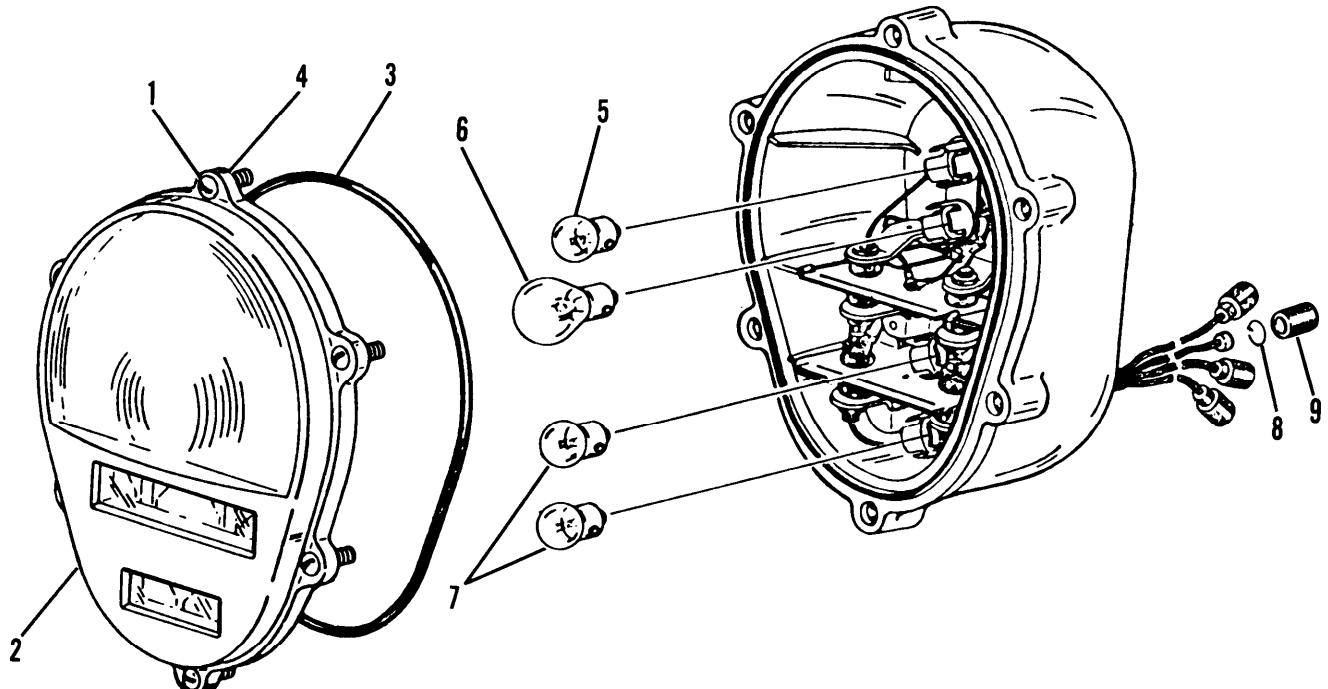

Figure 4-9. Composite Light Assembly
- (1) Unscrew six captive screws (1, fig. 4-9) on door (2).
- (2) Remove door (2) and gasket (3). Captive screws (1) are fitted with retaining rings (4) and will remain in door. Discard gasket (3) from door (2).
- (3) Remove lamps (5, 6, and 7) from sockets.
- (4) Remove C-washers (8) and shells (9) from end of cables.
- (1) Install shells (9, fig. 4-9) and C-washers (8) on end of cables.
- (2) Install lamps (5, 6, and 7) in sockets.
- (3) Install door (2) and new gasket (3).
- (4) Secure door (2) with six captive screws (1).